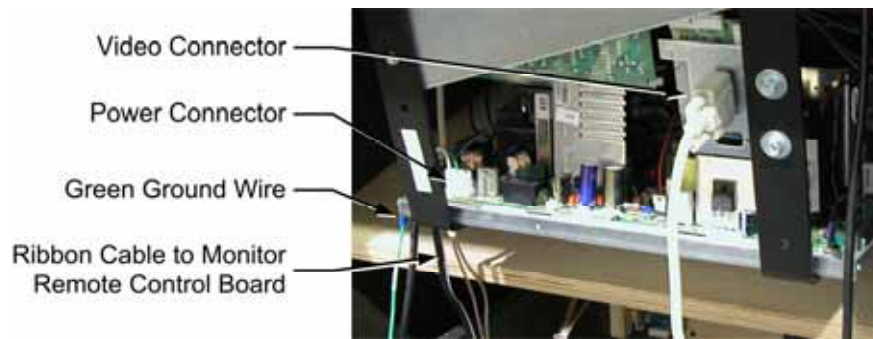
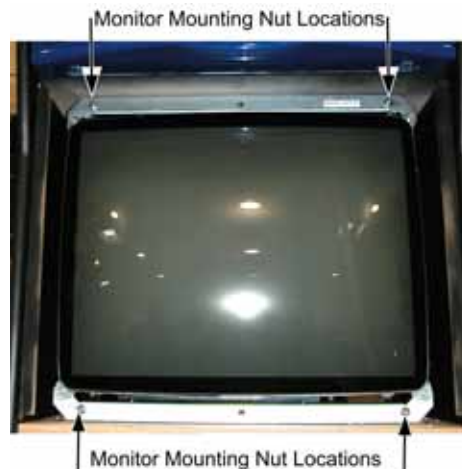

Figure 27. Cable Connections to the Monitor Chassis
Figure 28. Monitor Mounting Nut Locations
2. Refer to Figure 27 and disconnect the following cables:
5. Remove the two (2) screws that secure the speaker cover in place below the marquee. Check the marquee artwork and clear plastic to make sure they will not slide out while the speaker cover is removed.
8. Remove the four (4) 1/4-20 monitor mounting nuts, as shown in Figure 28.